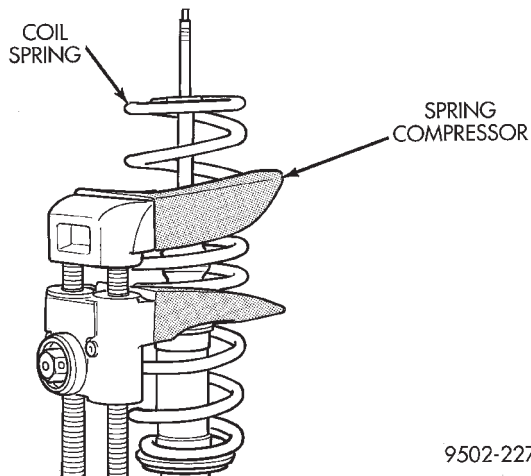

Fig. 60 Shock Absorber Coil Spring
(11) Remove the coil spring and the spring compressor as an assembly (Fig. 60) from the shock absorber. **Mark left and right springs for installation back on correct side of vehicle.**
(5) Install the coil spring and spring compressor on the shock absorber (Fig. 60). Be sure bottom coil of spring is correctly positioned on the lower spring isolator.